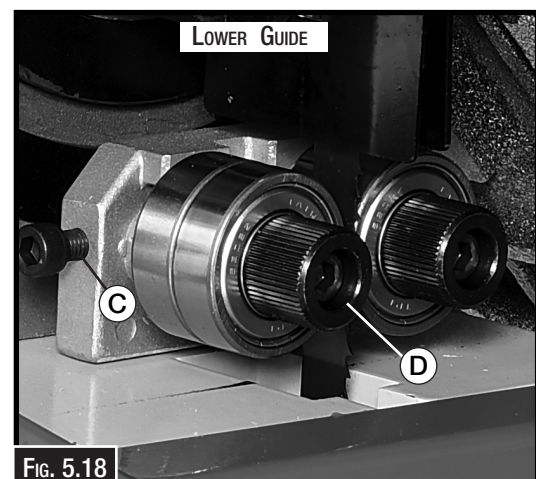

FIG. 5.18
4. Undo the socket head cap screw of the blade guide bearings. (C in Fig. 5.18)
6. Tighten the cap screw to lock the blade guide bearings in position. (D in Fig. 5.18)